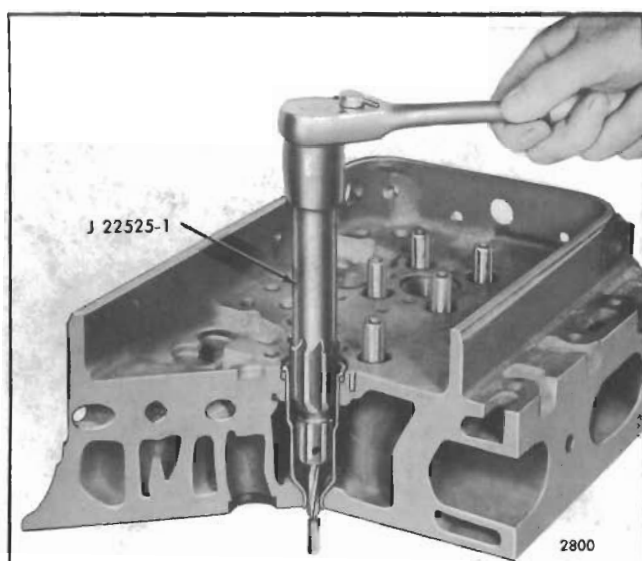
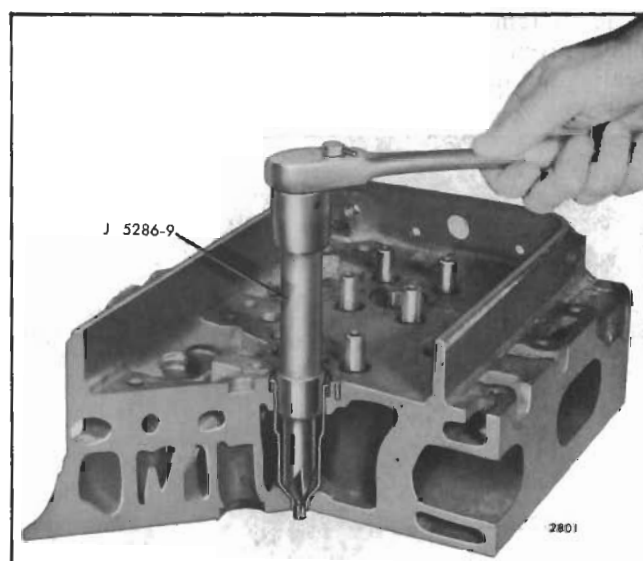

Fig. 4 - Reaming Injector Tube for Injector Body Nut and Spray Tip
Fig. 5 - Reaming Injector Tube for Injector Nut
After an injector tube has been installed in a cylinder head, it must be finished in three operations: First, *hand reamed*, as shown in Fig. 4, to receive the injector body nut and spray tip; second, *spot-faced* to remove excess stock at the lower end of the injector tube; and third, *hand reamed*, as shown in Fig. 5, to provide a good seating surface for the bevel or the lower end of the injector nut. Reaming must be done carefully and without undue force or speed so as to avoid cutting through the thin wall of the injector tube.
- Turn the reamer in a clockwise direction (withdrawing the reamer frequently for removal of chips) until the lower shoulder of the reamer contacts the injector tube (Fig. 4). Clean out all of the chips.